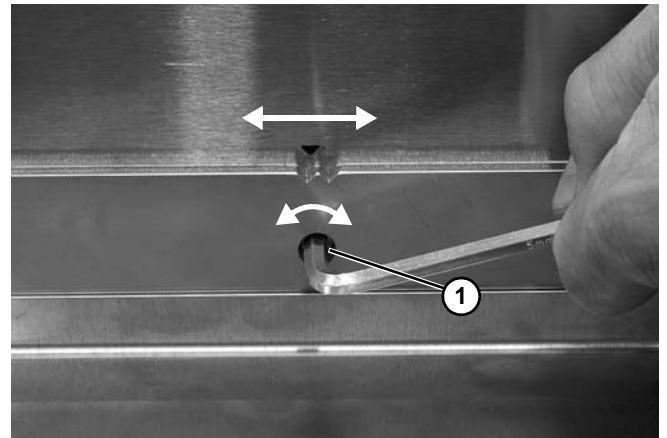

Figure 74
3. Rotate the tracking cam (**Figure 74, item 1**) left or right in small increments. After each adjustment, watch the belt as it exits the center drive. Continue to rotate the tracking cam until the conveyor belt is tracking normally.